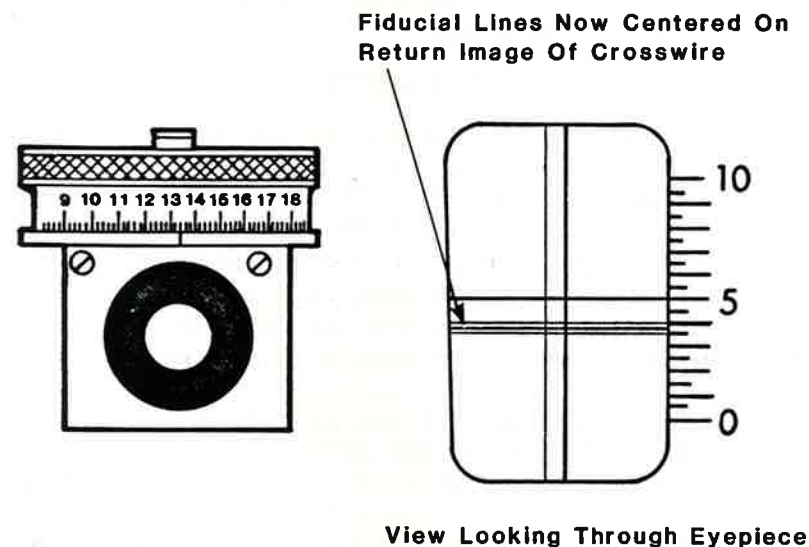

Figure 4. Micrometer Centering and View Through Eyepiece After Centering Lines
3. Adjust until these wires precisely bracket the return image, as shown in Figure 4.
For example, the fiducial in Figure 4 is slightly past the $3 \frac{1}{2}$ minute mark. The micrometer drum at that time reads 13.4 seconds. (Remember that each of the small divisions equals 0.2 second). The sum of these values (3 minutes and 43.4 seconds) is the reading.